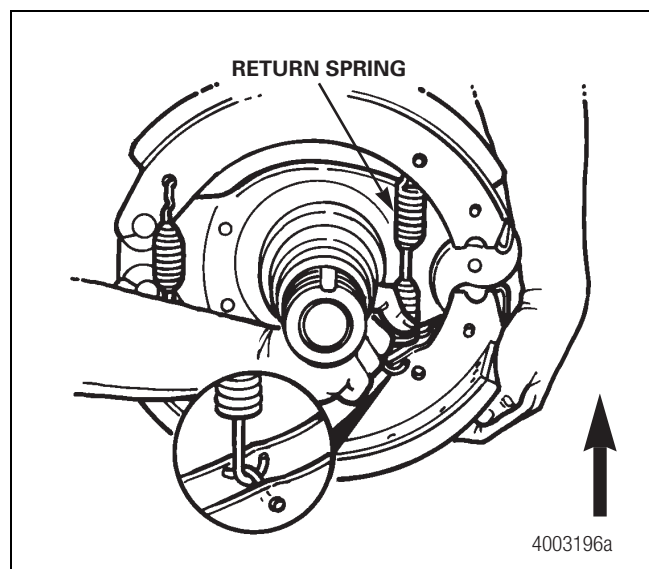

Figure 5.4
6. Rotate the lower brake shoe FORWARD to place tension on the retaining springs and install a new return spring. Figure 5.4.